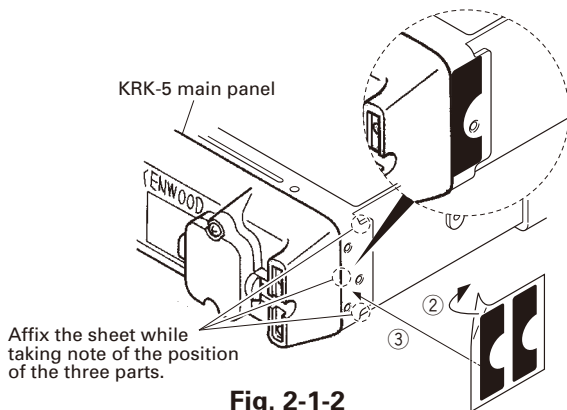

Fig. 2-1-2
4. Affixing the sheet (G11-4379-04) for the waterproof (Fig.2-1-2).
(1) Remove the covering paper of the sheet ②.
(2) Affix the sheet while taking note of the position of the three parts as shown in Fig.2-1-2 ③.